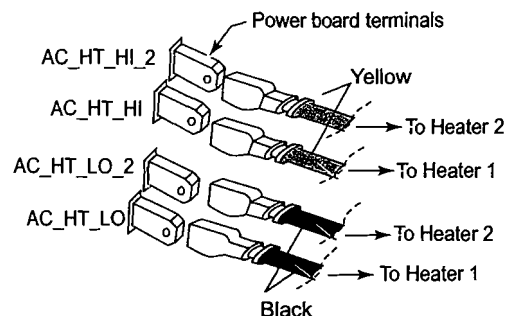

Figure 16. AC Heaters' power board connections.
1. Connect one AC heater BLACK wire to power board terminal AC_HT_LO and the other to AC_HT_LO_2. See Figure 16.
2. Connect one AC heater YELLOW wire to power board terminal AC_HT_HI and the other to AC_HT_HI_2. See Figure 16.